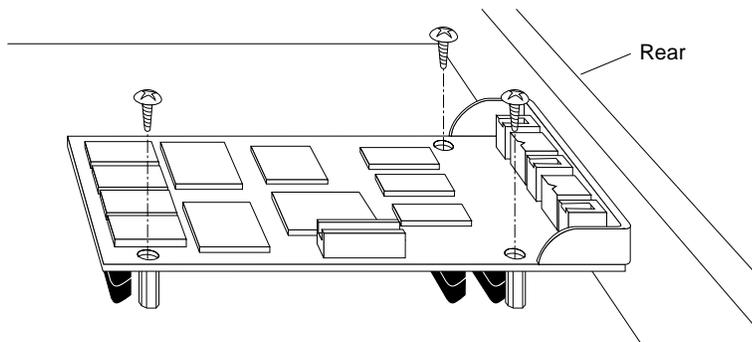

Figure 1-8 Removing the Screws From the GIO Option Board
- Using a Phillips screwdriver, remove the three screws that connect the GIO option board to the graphics board, as shown in Figure 1-8.